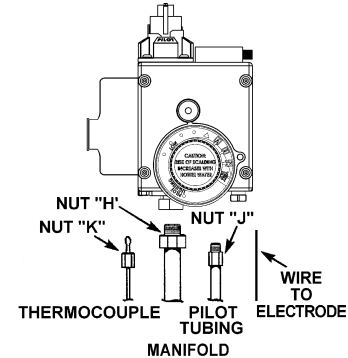
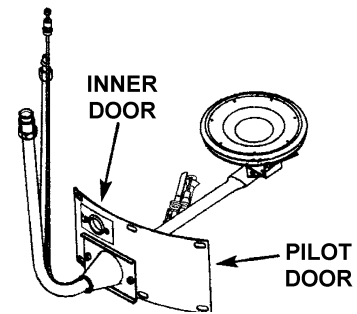
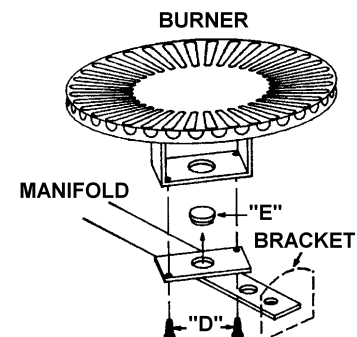

FIGURE 32.
FIGURE 33.
FIGURE 34.
Step 3. Remove burner assembly from water heater control by first removing 6 screws holding inner door to heater, then loosening 3/4" nut "H" holding burner assembly to control, see figures 32 and 33. Loosen pilot tube nut "J" and thermocouple nut "K" at control. Disconnect wire to Piezo Igniter.
Step 4. Remove screws "D" disengaging manifold from burner, see Figure 34 page 19.
Step 5. Remove orifice "E", see Figure 34 page 19 using 3/8" wrench. Install orifice marked "L.P." found in the bag into manifold. Tighten securely. Secure burner to manifold with screws "D".
Step 7. Make sure all connections are tightened securely, and reinstall burner assembly into water heater. Position end of manifold inside bracket as shown in Figure 34, page 19. Reinstall manifold into gas control valve/thermostat and tighten 3/4" nut ("H") securely. Recheck to see that end of manifold is still inside bracket as shown in Figure 34, page 19. Reinstall pilot tubing and thermocouple into gas control valve/thermostat, see Figure 32, page 19. Connect wire to Piezo Igniter. Reinstall inner door using the 6 screws removed in Step 3.
- Step 12. The pilot is located in front of the burner, see Figure 33.
- Step 14. Push in control knob all the way and hold down. Immediately light the pilot using the Piezo Igniter. Continue to hold control knob in for about one (1) minute after the pilot is lit. Release knob and it will pop back up. Pilot should remain lit. If it goes out, repeat Steps 9 through 12.
- Step 15. Check for gas leaks with only pilot flame burning using soapy water solution, not a match or open flame. Check for gas leaks at fittings "F" and "G" (see Figure 35) and at fitting "J" (see Figure 32).
- Step 19. With a soapy water solution, not a match or open flame, check for gas leaks at gas connection "H", see Figure 32. If gas leak occurs, turn off immediately by shutting off gas cock at inlet to control, or by turning gas control knob (↻) to "PILOT" pushing down and turning to "OFF". Repair gas leak as necessary, and repeat Steps 9 through 19.